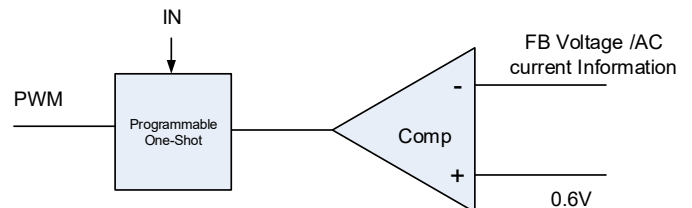

Figure 2. Simplified Control Schematic of AOZ22557QI
The simplified control schematic is shown in Figure. 2. The high-side switch on-time is determined solely by a one-shot whose pulse width can be programmed by one external resistor and is inversely proportional to input voltage (IN). The one-shot is triggered when the internal 0.6V is higher than the combined information of FB voltage and the AC current information of inductor, which is processed and obtained through the sensed lower-side MOSFET current once it turns-on. The added AC current information can help the stability of constant on time control even with pure ceramic output capacitors, which have very low ESR. The AC current information has no DC offset, which does not cause offset with output load change, which is fundamentally different from other V^2 constant-on time control schemes.